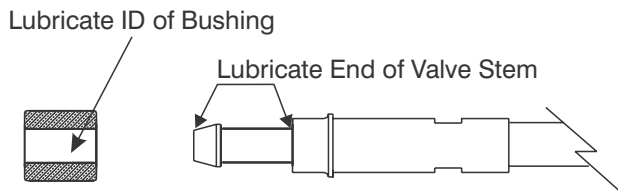

Figure 9-11. Lubricate End of Valve Stem.
1. Place the Valve (3), Valve Bushing (4) and Valve Stem (5) on the work bench. Secure the Valve (3) in a padded vice or saddle clamp tight enough to prevent movement during assembly.
2. Lubricate the inside of the Bushing. Lubricate the non-threaded end of the Valve Stem from the tip to the bushing seat as shown in Figure 9-11.